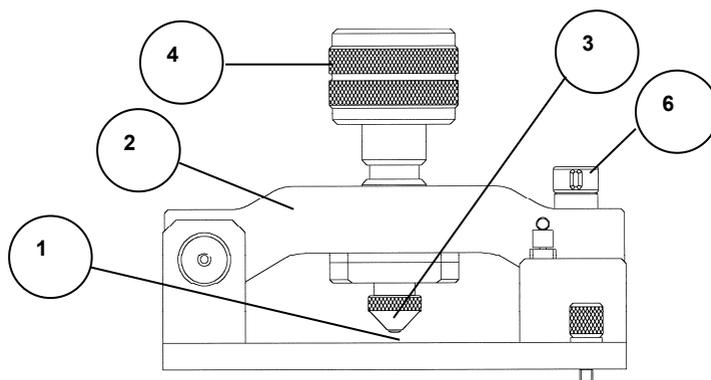

Fig 1: Side View of MKII Golden Diamond ATR Top Plate (Bridge Closed)
The clamp bridge (2) has a quick lock and release mechanism (6). When pressure needs to be applied to a solid sample the bridge must be closed (see Fig 1). The quick lock and release screw is pushed down and turned clockwise 90° to lock the bridge closed. To release the bridge the screw is pushed down and turned anticlockwise 90°.